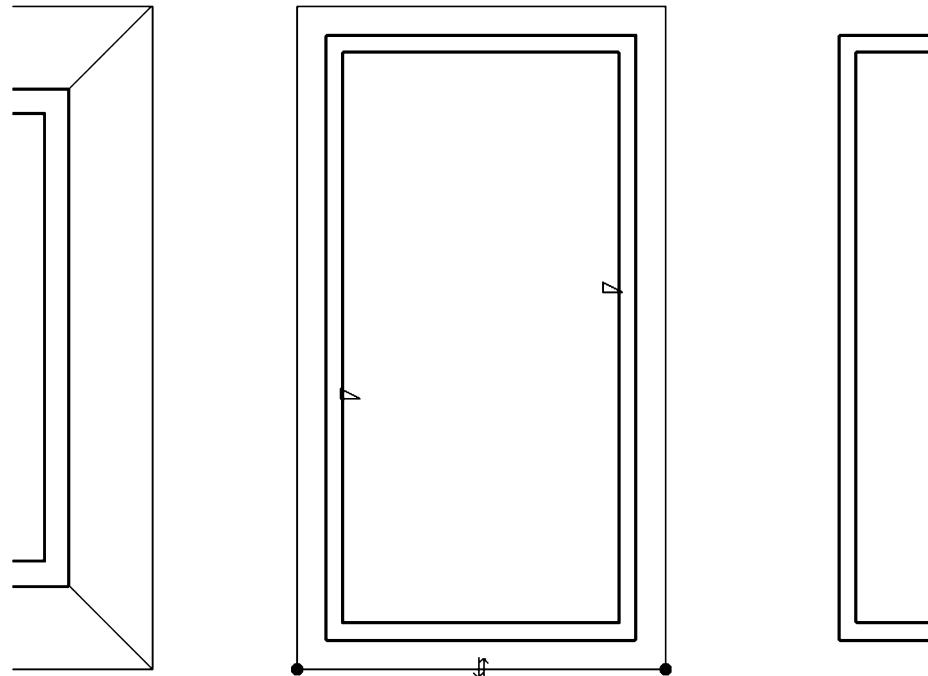

FIGURE 8-1.5 Gable – plan view
21. Select the remaining two walls (Figure 8-1.5).